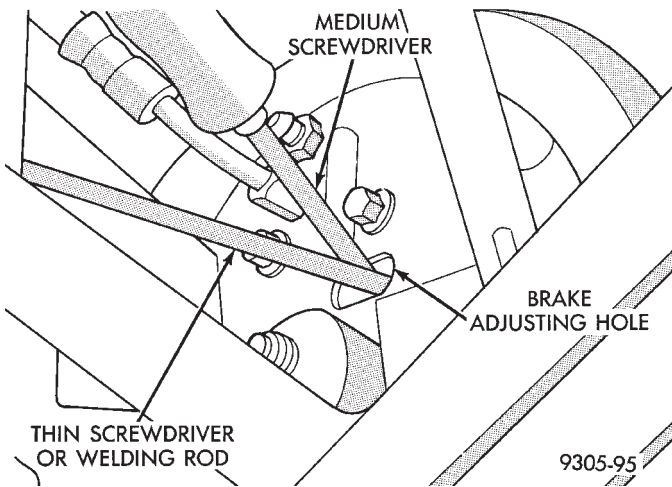

Fig. 2 Rear Brake Shoe Adjustment
(4) Insert a medium blade screwdriver (Fig. 2) or equivalent through the adjusting hole in support plate and against star wheel of adjusting screw. Move handle of tool downward until a slight drag is felt when the road wheel is rotated.
(5) Insert a thin screwdriver or piece of welding rod into brake adjusting hole (Fig. 2). Push adjusting lever out of engagement with star wheel. **Care should be taken so as not to bend adjusting lever or distort lever spring.** While holding adjusting lever out of engagement with star wheel, back off star wheel to ensure a free wheel with no brake shoe drag.